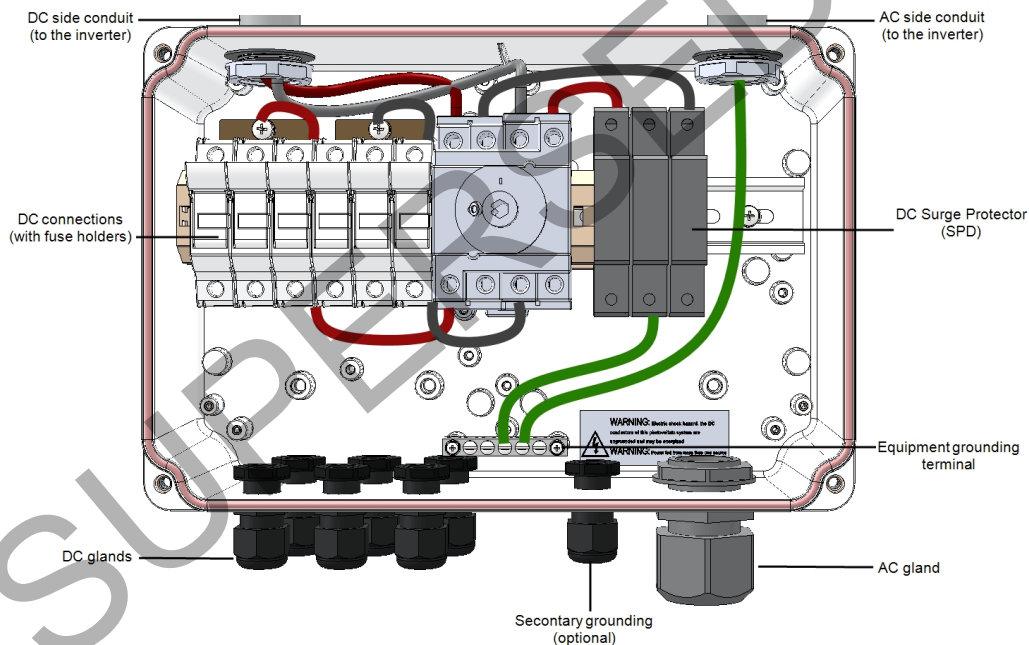

Figure 30: Inside the DC Safety Unit with fuses
6. Open the AC cable gland and insert the cable through the gland (see *Figure 30*).